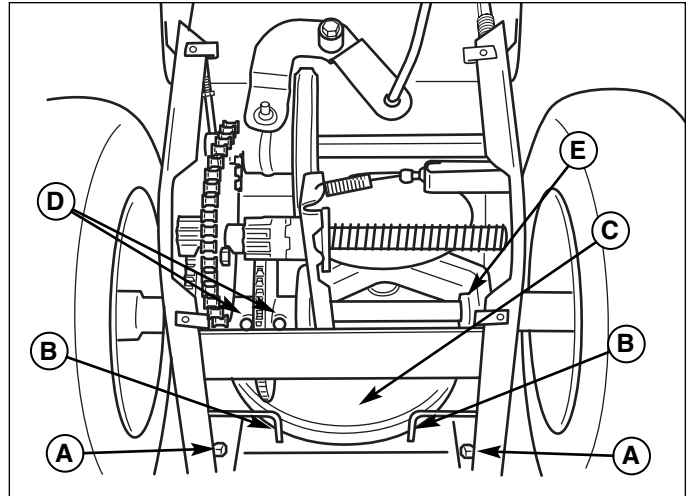
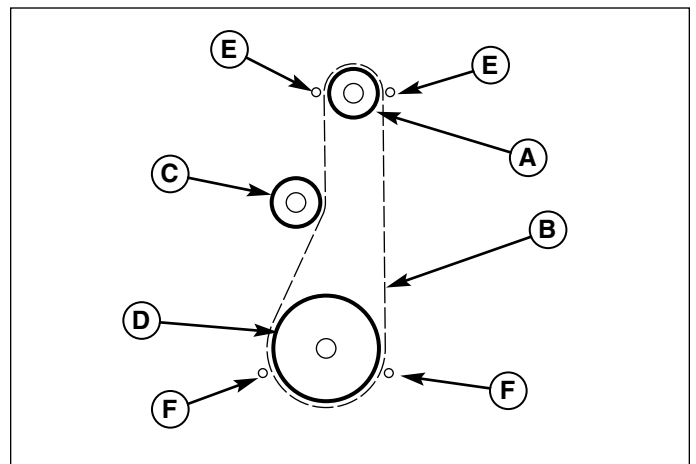

Figure 27. Auger Pulley Belt Stops (shown with bottom cover removed)
Figure 28. Belt Pattern (viewed from front)
- c. Remove two capscrews from bottom cover to snowthrower frame. Loosen nuts (A, Figure 27) on each side to release auger pulley belt stops (B). Move belt stops and remove belt from pulley (C).
- d. Remove the two bolts (D, Figure 27) from the gear assembly.
6. Reverse the procedure to install the belts. Be sure there are no twists and the belts are properly seated in the grooves. Adjust the belt stops so there is 1/8" (3mm) clearance between belt and stop. The pattern for both belts is shown in Figure 28. Slide the right axle left fully before tightening the set collar (E, Figure 27).